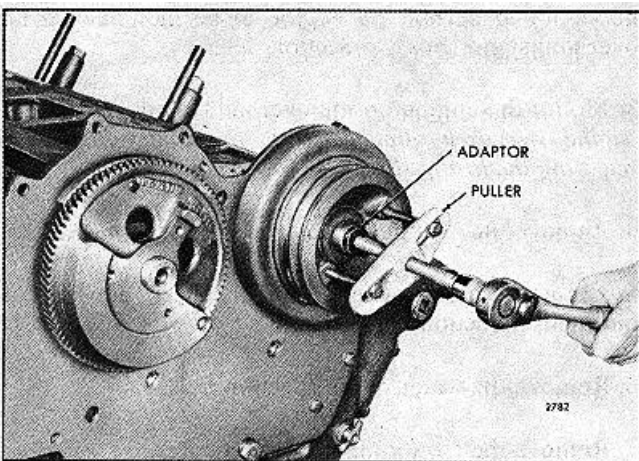

FIG.3 - Removing Camshaft Pulley
10. Remove the camshaft pulley, using puller J 4794-01. Use adapter J 7932 between the end of the camshaft and the puller screw to protect the end of the camshaft (Fig. 3).